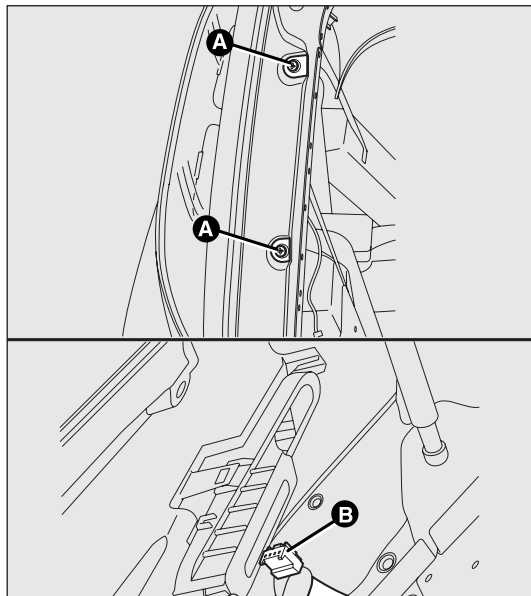

fig. 174
The bulbs are arranged inside the light cluster fig. 174 as follows:
- ☐ undo both fastening bolts A-fig 174;